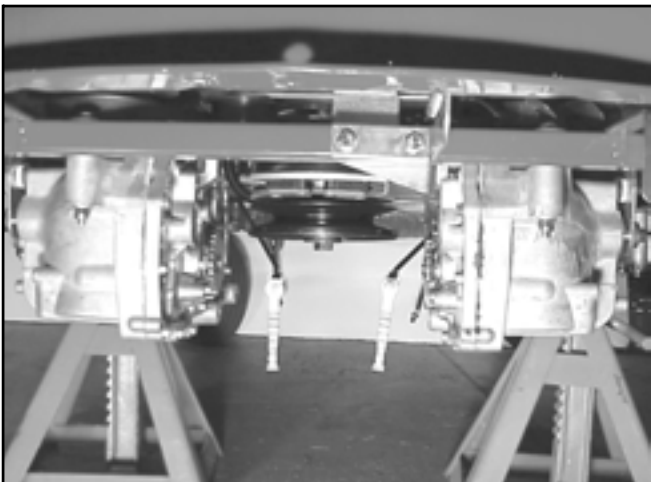

Figure 53
2. Remove the brake arm on the transaxle, you are performing the neutral adjustment on. In this case, we are performing a neutral adjustment on both transaxles. Make sure the brake arms are clear of the cog brake system disc (Figure 53).